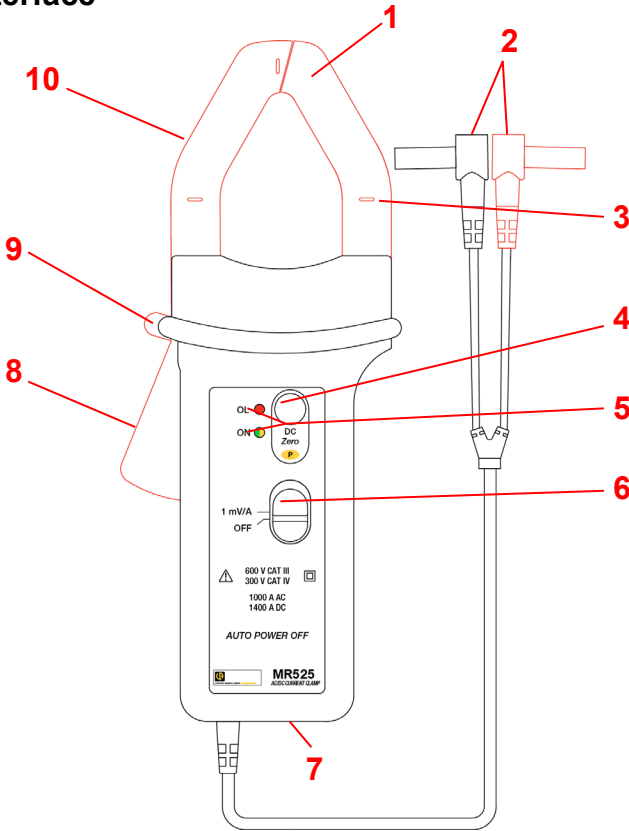

Figure 1 (MR525 shown)
2. Clamp the jaws around the conductor to be measured. Use the centering marks on the jaws to position the clamp around the conductor. If the measurement is to be used in a power calculation, ensure the arrow on the clamp jaws (see Figure 1) points in the direction of the current flow: source \Rightarrow load.